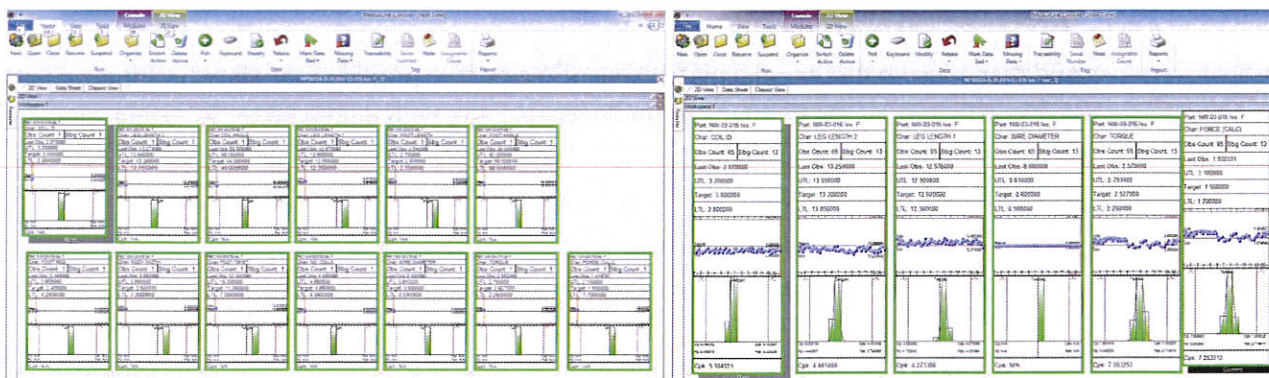

Figure 1: MeasurLink screen showing a results entry page for both a full dimensional and SPC inspection.
6.1.3. **Use of MeasurLink.** Measure the dimensions in the order they are detailed in on the MeasurLink screen using Figure 1: as an example of both a full dimensional and SPC inspections.